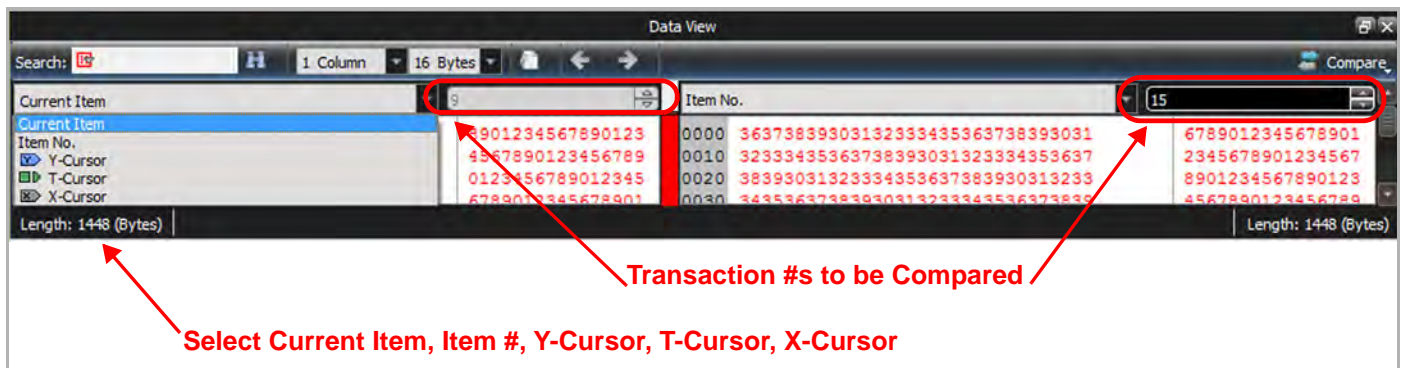

Figure 5.24: Select Transactions to be Compared
- ❑ Item No. (Current Item, Item No., Y-Cursor, T-Cursor, X-Cursor) (Figure 5.24)
- ❑ Exit Compare (Figure 5.24)